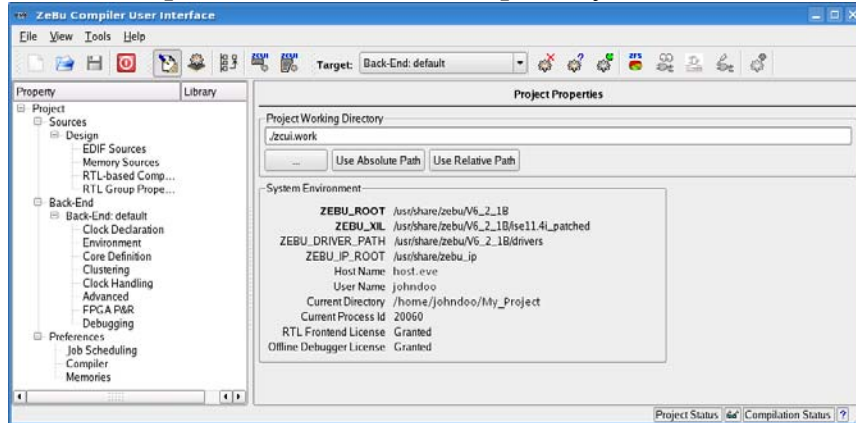

Figure 5: Opening display (Project View)
The **System Environment** frame displays information about your configuration. The values displayed in Figure 5 are for a standard environment.
- The **Project** view which is the opening display shown in Figure 5 in which the parameters for the compilation are set. The compilation settings are stored in a **zCui** project file (.zpf file).